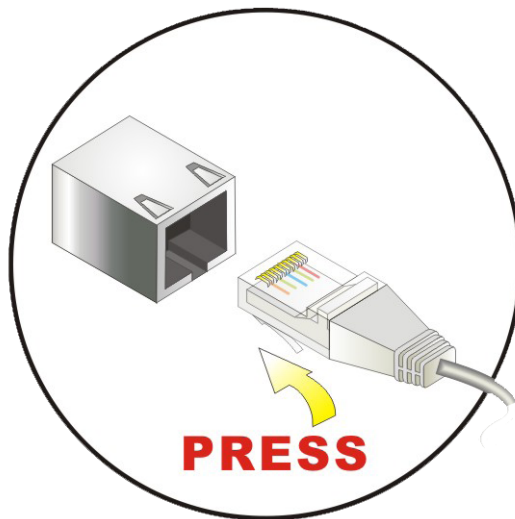

Figure 5-22: LAN Connection
Step 2: **Align the connectors.** Align the RJ-45 connector on the LAN cable with one of the RJ-45 connectors on the 3307680. See **Figure 5-22**.
Step 2: Align the connectors. Align the USB device connector with one of the connectors on the 3307680. See **Figure 5-22**.